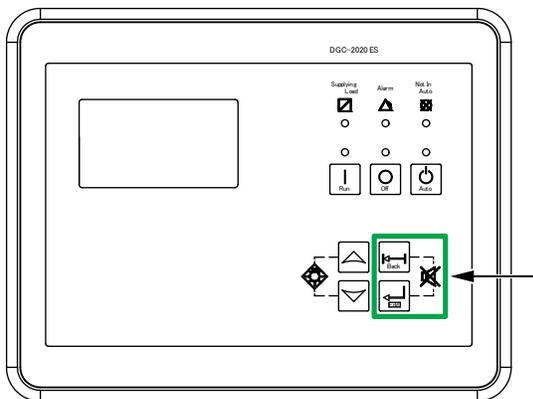

Figure 55. Digital Controller (Alarm Silence Button)
1. Press and hold the **Back button** and the **Edit button** simultaneously (Alarm Silence) for 3 seconds. See Figure 55.